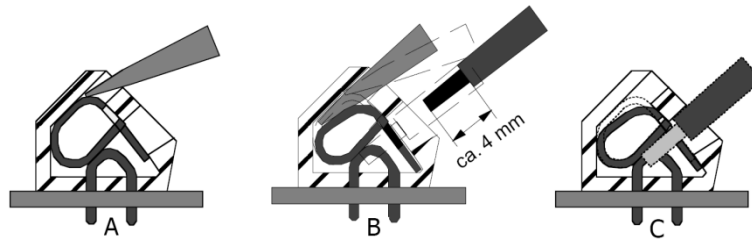

Figure 56. Connection in screwless spring-loaded terminals
- Insert a size 1 screwdriver in the upper opening and insert it turning slightly upwards (figure 56 A).
- Now place the stripped connecting wire in the lower opening and hold it there securely (figure 56 B).
- Withdraw the screwdriver. The connecting wire is then firmly fixed (figure 56 C).
The insulation of the connecting line must extend as far as the terminal indentation, i.e. there must be no further bare part of the connecting line visible above the terminal edge (as shown in figure 56 C). Touching live parts is dangerous to life. The stripped part of the connecting wire should be shortened, if necessary.